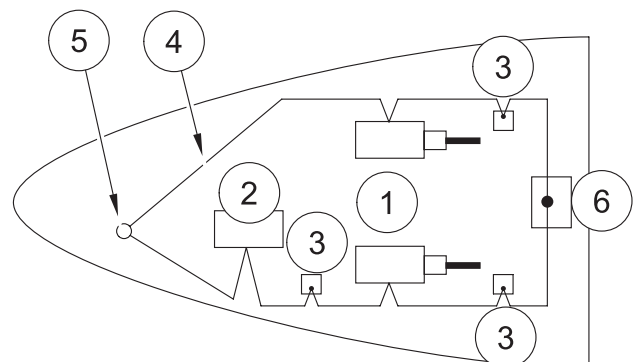

Figure 51
Use the earthing strap bolt (figure 51 item 1) to to ground the unit.